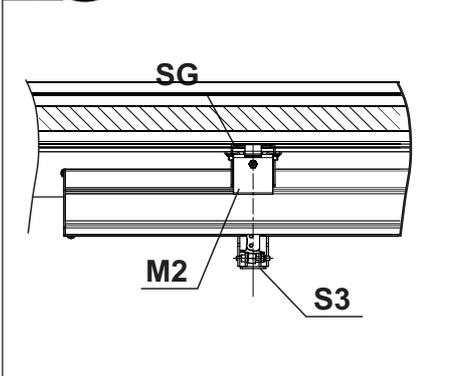

Fig. 17
9) Fig.17 - Perform the electric connections according to the provisions of par. 5.3, as well as with reference to the wiring diagram. Power the actuator and let the chain come out for at least 150mm of stroke, then disconnect the actuator;